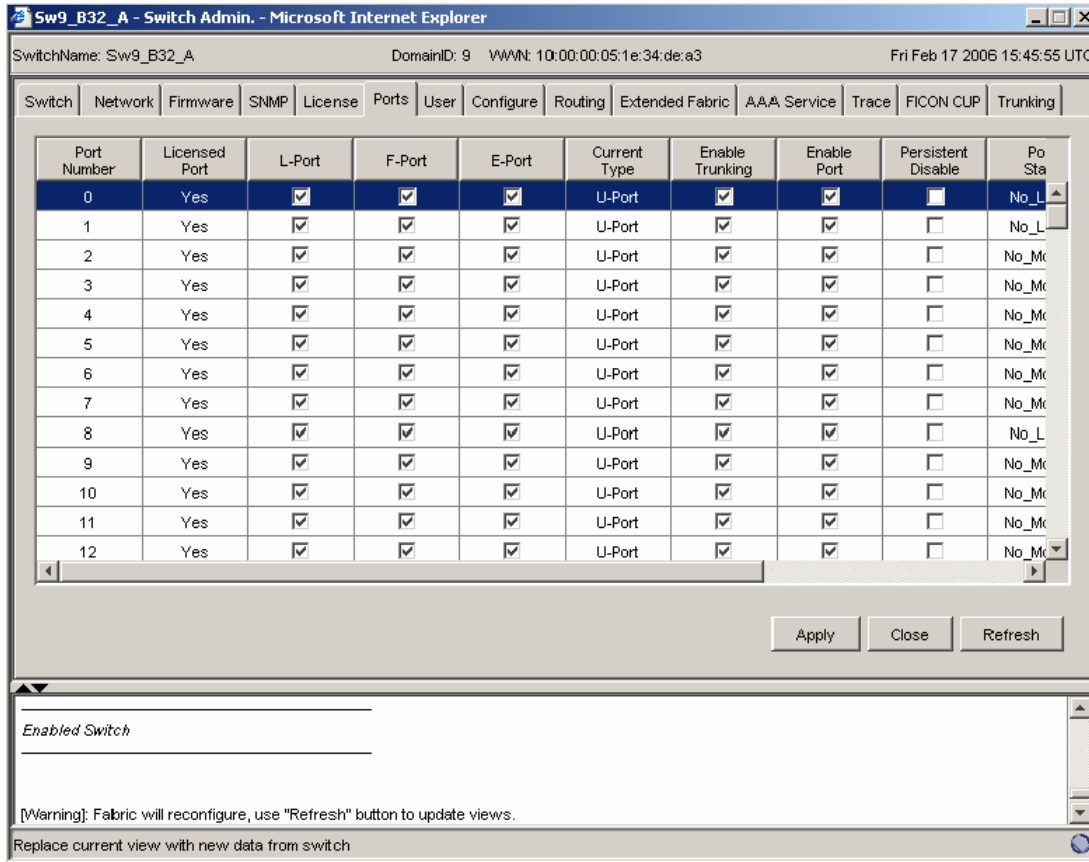

Figure 5-32 Enabling newly licensed ports
- c. Click **Apply** (see Figure 5-32 on page 91).